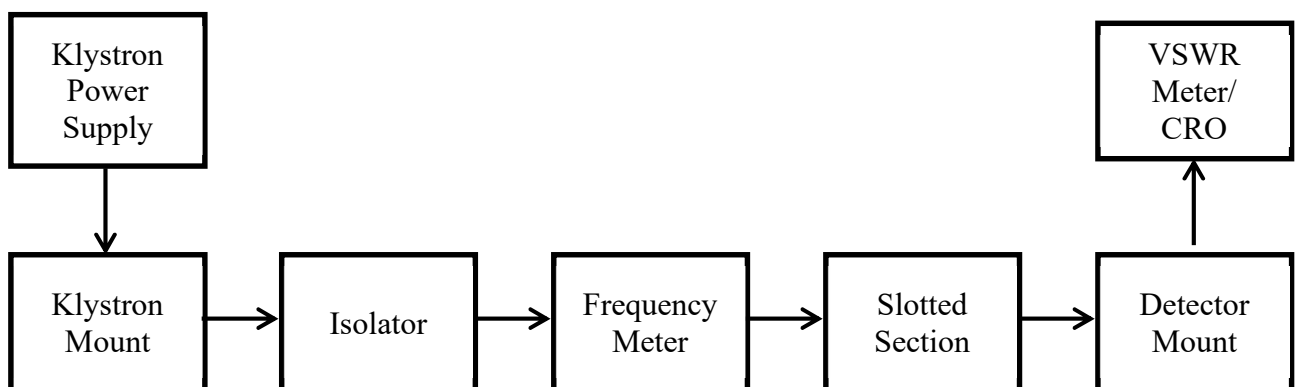

Fig.1. Set-up for Measurement of Guide Wavelength
1. Set up the components and equipments as shown in Fig.1
9. Calculate λ_g using equation (1) where $a = 2.286$ cm.